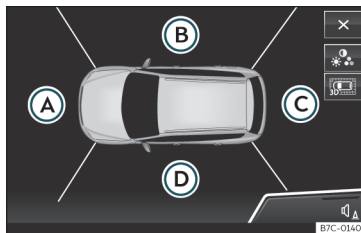

Fig. 238 Display of the Area View system: aerial view.
Key to the Fig. 238:
The aerial view is generated by combining the images from all the cameras  >>> **Fig. 238**. The aerial view can be selected by pressing the *vehicle* in the area.
Select the corresponding view by pressing the different areas >>> **Fig. 238** (A) to (D) of the aerial view or the reduced aerial view.
Manual connection of the display:	Press the P button >>> Fig. 239 once. The infotainment system screen displays the aerial view >>> Fig. 238 . If you press the P button when driving above 15 km/h (9 mph), the image will not be displayed.